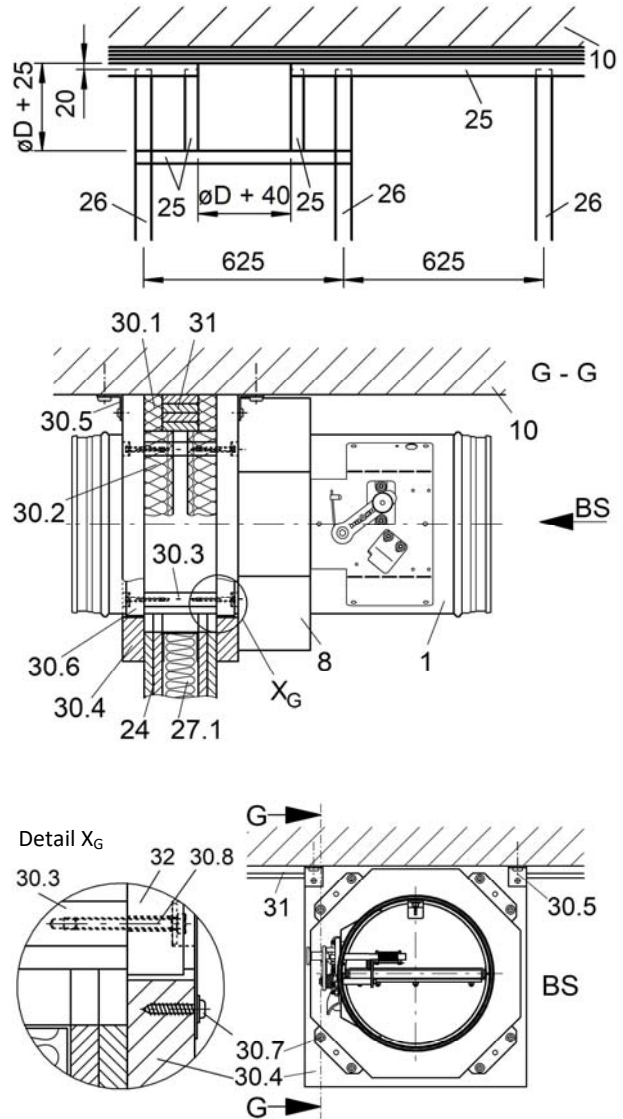

Figure 44: Installation kit GDL for installation in lightweight partition walls with metal posts and panelling on both sides with sliding ceiling connection
- Mount the ceiling connection strips (pos. 31) for the sliding ceiling connection under the solid ceiling (pos. 10). Mount the metal posts and the wall in accordance with the specifications of the wall manufacturer and the required exchange parts as shown on Figure 44. In the area of the sliding ceiling connection, the exchange parts and CW-profiles (pos. 26) have been mounted loosely. In the ceiling profile (UW-profile) (pos. 25), a recess (width $b = \varnothing D + 40$ mm) must be made in the area of the BSK-RPR (pos. 1).
- Mount the wall panellings on both sides (pos. 24) and provide an installation opening.
- In the area of the installation opening, on both sides of the ceiling connection strips (pos. 31), attach the mineral wool strip (pos. 30.1, dimension $b = 50 \times d = 25$ mm).
- The baffle plate (pos. 30.4) to which previously two suspension brackets (pos. 30.5) and four spacers (pos. 30.3)